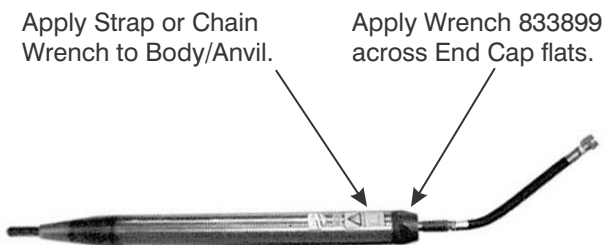

Figure 9-26. Secure End Cap to Body/Anvil.
7. Place the Hole-Hog on a level surface. Holding the Body/Anvil (1) with a strap wrench, use wrench P/N 833899 to tighten the End Cap (15), as shown in Figure 9-26.